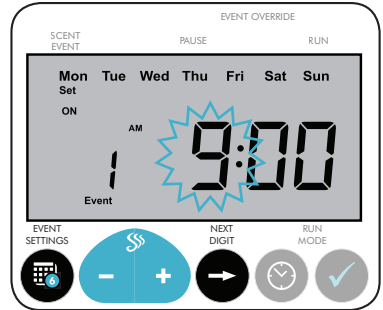
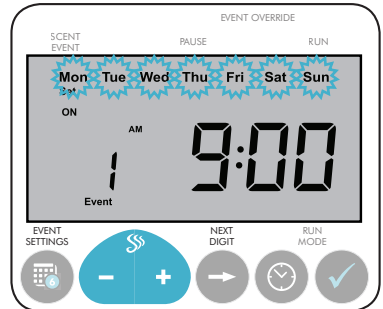

Fig.8: The On Time hour slot will be flashing. Set and Event 1 will also be displayed.
Fig.9: The Days Of The Week will be flashing. Set, Event 1 and the On Time will also be displayed.
1. Press EVENT SETTINGS to edit the first event, beginning with the hour slot. **(Fig.8)**
- Press - or + to adjust the minutes in increments of five (5).
3. Press NEXT DIGIT again to move to the days of the week. **(Fig.9)**